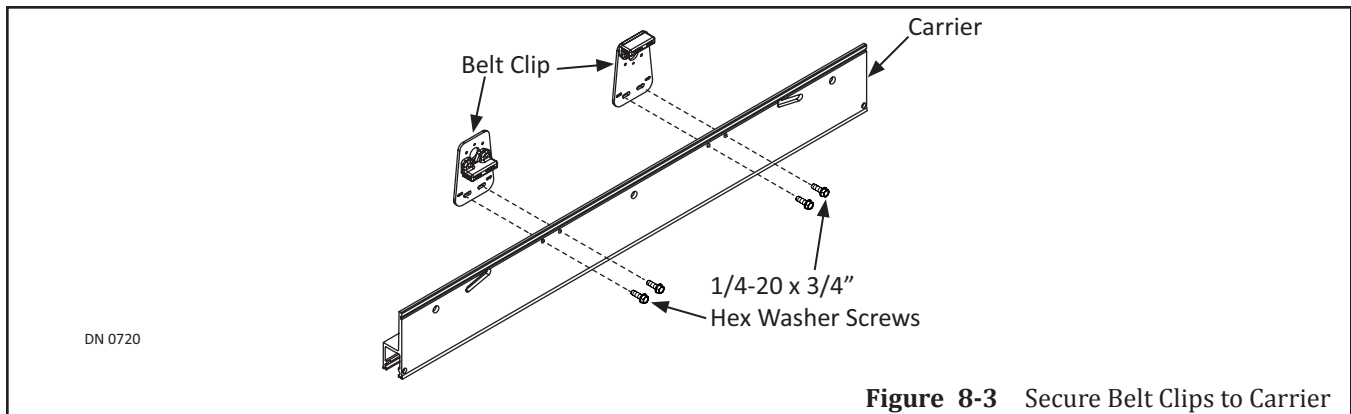

Figure 8-3 Secure Belt Clips to Carrier
1. Align (2) Carrier screw holes to the Belt Clip screw holes that was pre-installed within Header. Please see Figure 8-3.
2. Secure the Belt Clip with (2) 1/4-20 x 3/4 inch machine screws provided by NABCO.